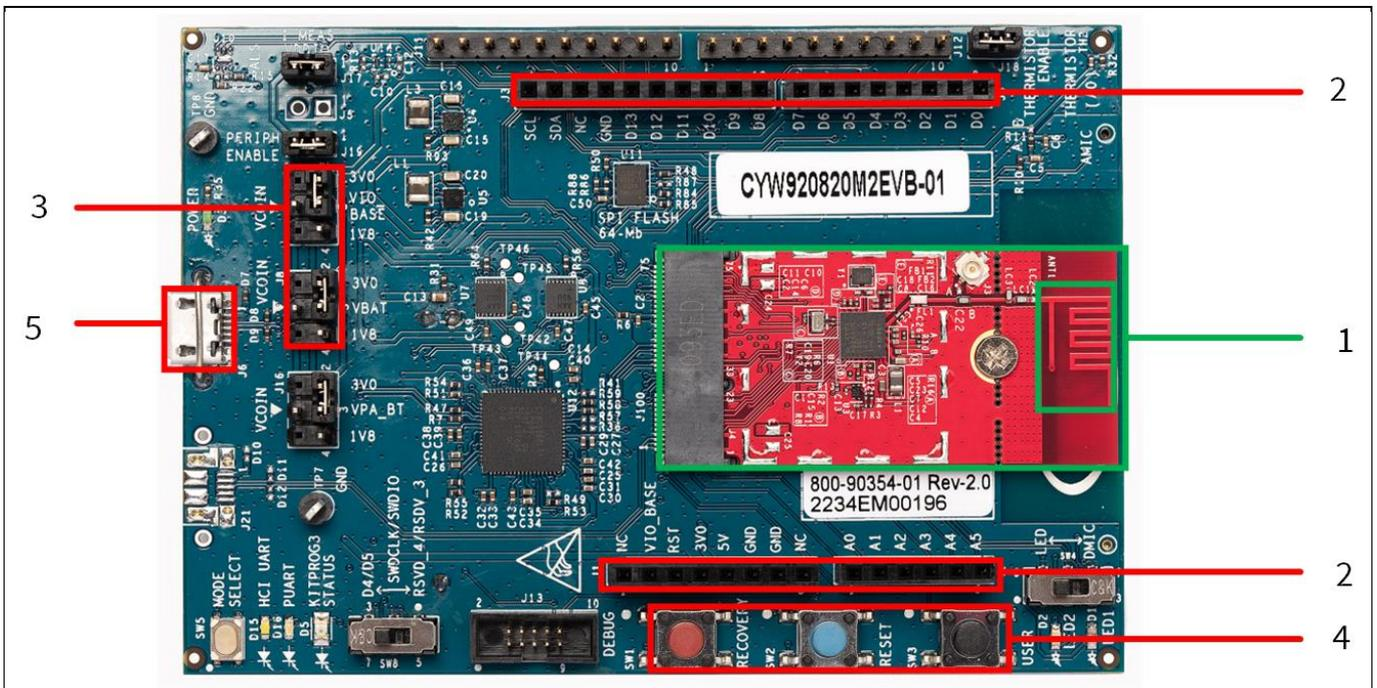

Figure 2 CYW920820M2EVB-01 evaluation board
Figure 2 shows the CYW920820M2EVB-01 evaluation board with the following features:
1. Verify that all the jumpers are in the default configuration as shown in Table 5 to Table 10, so that Peripheral UART is selected and can display embedded application trace messages. Figure 2 shows the default jumper locations.